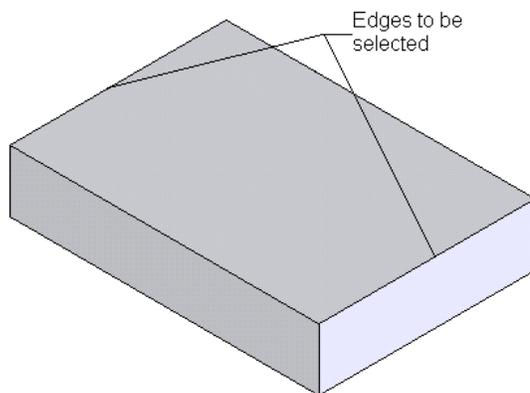

Figure 6-96 Edges to be selected
- Add the fillet features to the base feature, refer to Figures 6-96 through 6-99.
2. Select the edges of the model as shown in Figure 6-96.